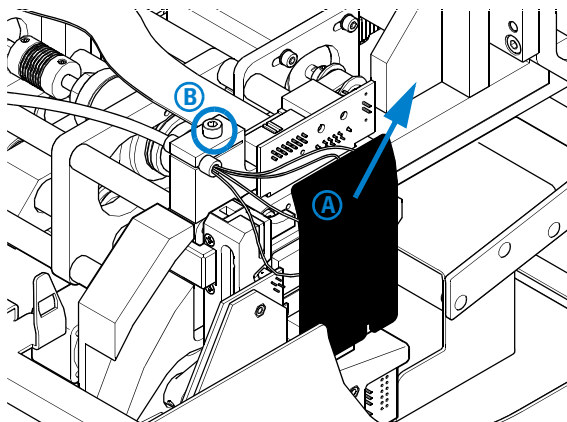

Figure 50 Stages assembly
- 4 Remove the capillary cover (A) and open the thumb screw of the strain relief (B). See Figure 50.